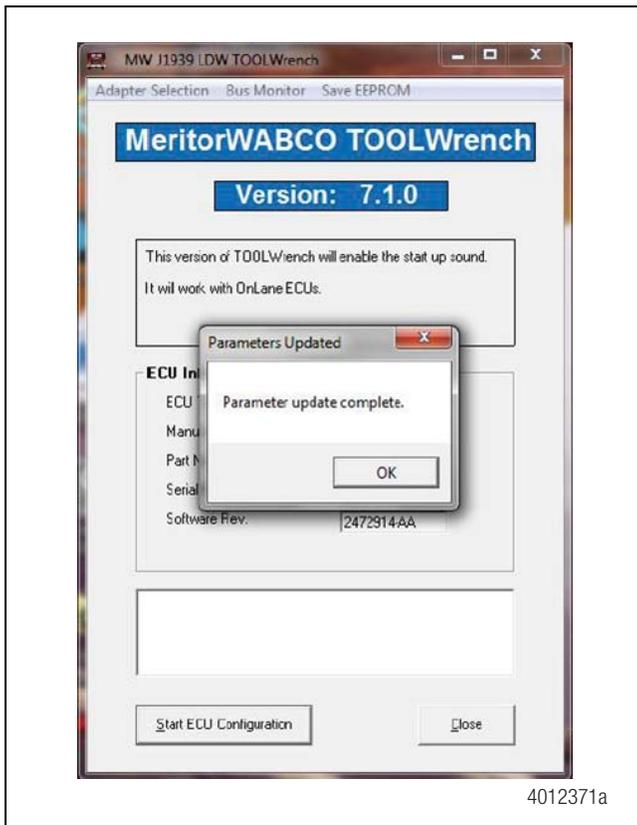

Figure 7
- Wait for TOOLWrench to complete the update. When finished, the following message will appear in the window. Figure 7.